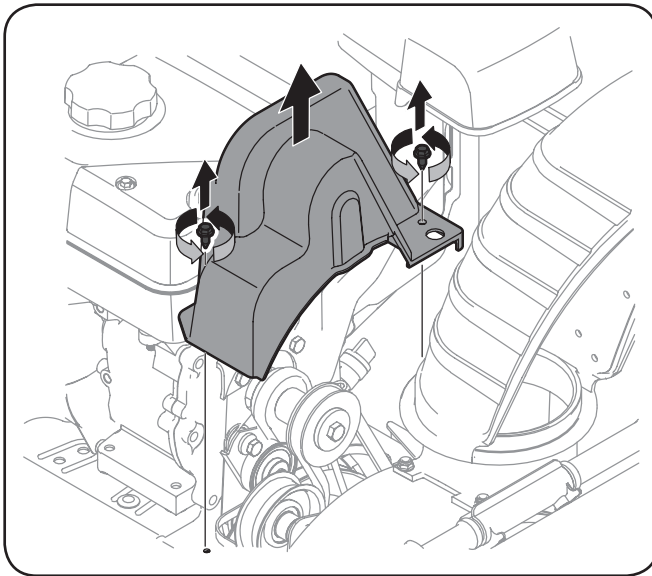

Fig. 7-1
2. Remove the plastic belt cover on the front of the engine by removing the two self-tapping screws. See Fig. 7-1.